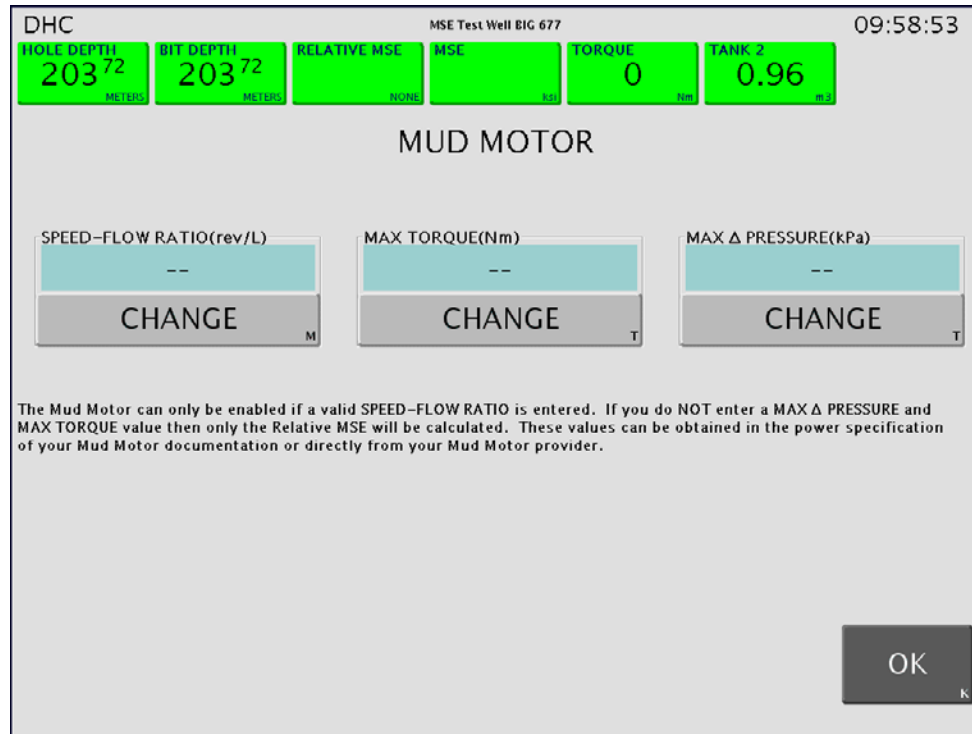

Figure 2: Mud Motor screen
5. Select **Mud Motor Config**. The Mud Motor screen opens (Figure 2).